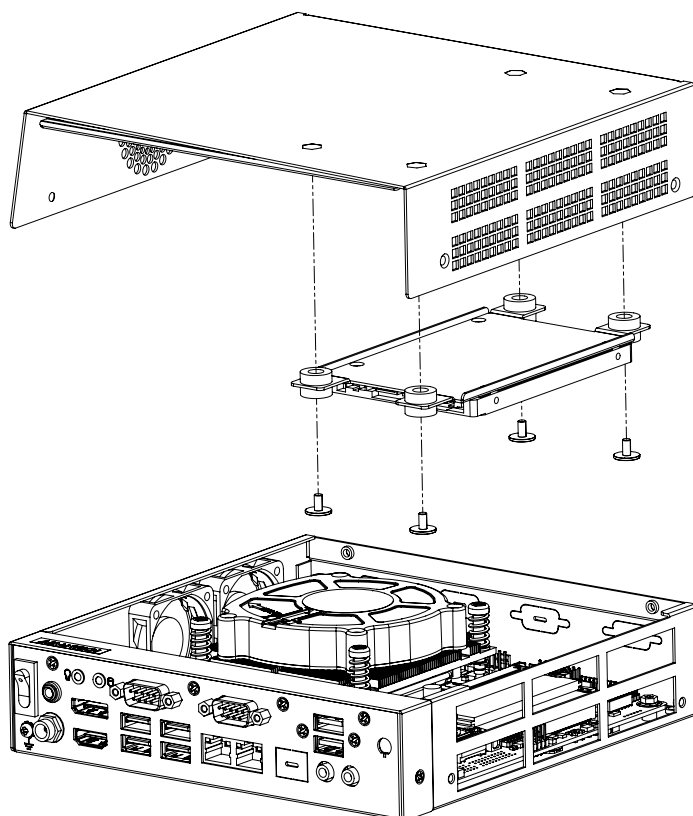

Figure 2.4 Installing the HDD/ 組裝 HDD/ 安裝 HDD
- Figure 2.4 Installing the HDD/ 組裝HDD/安裝HDD 7